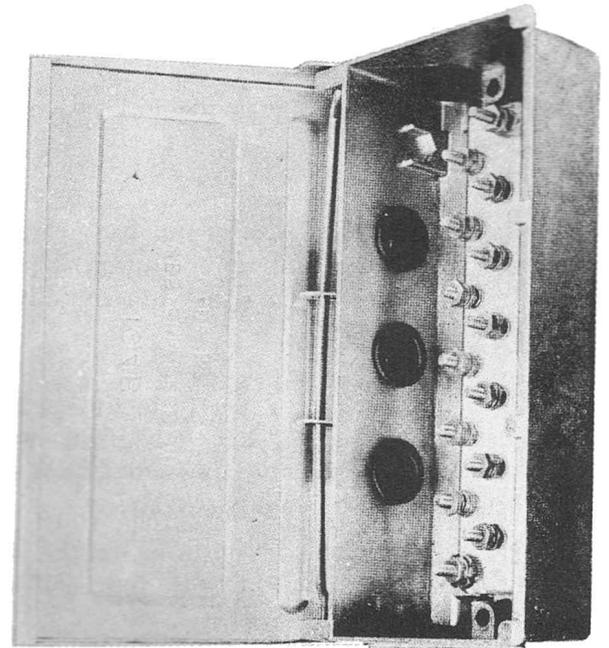

Fig. 2—104B Wire Terminal
3.02 The 104B wire terminal shown in Fig. 2 employs a mounting which is an aluminum die cast box, with a toggle-type cover similar to the cover on the 104A. It is equipped with a terminal block having facilities for connecting 6-pair multiple drop wire. Two binding posts, one at each end of the block, are strapped together internally and are used for signaling grounds.
Two mounting holes are provided. (See Fig. 2.) Use No. 14 RH galvanized screws of sufficient length to mount securely.